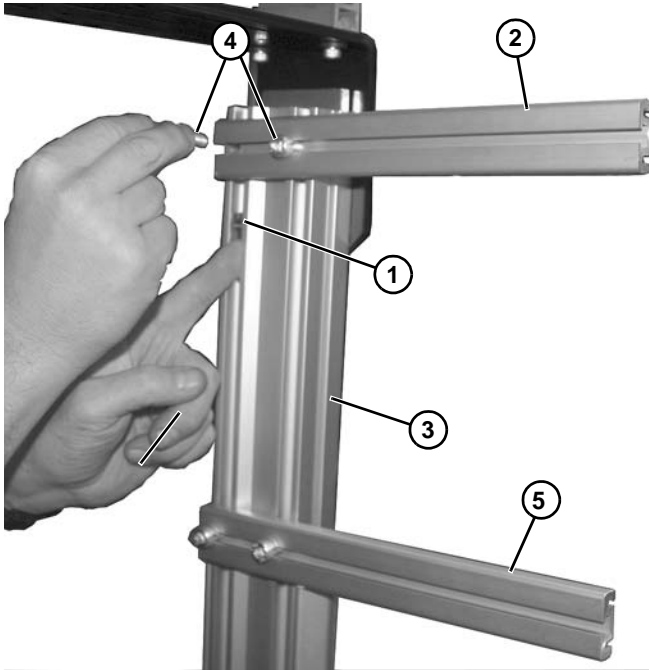

**Figure 7**
5. Attach controller (**Figure 7, item 1**) to conveyor with screws (**Figure 7, item 2**).